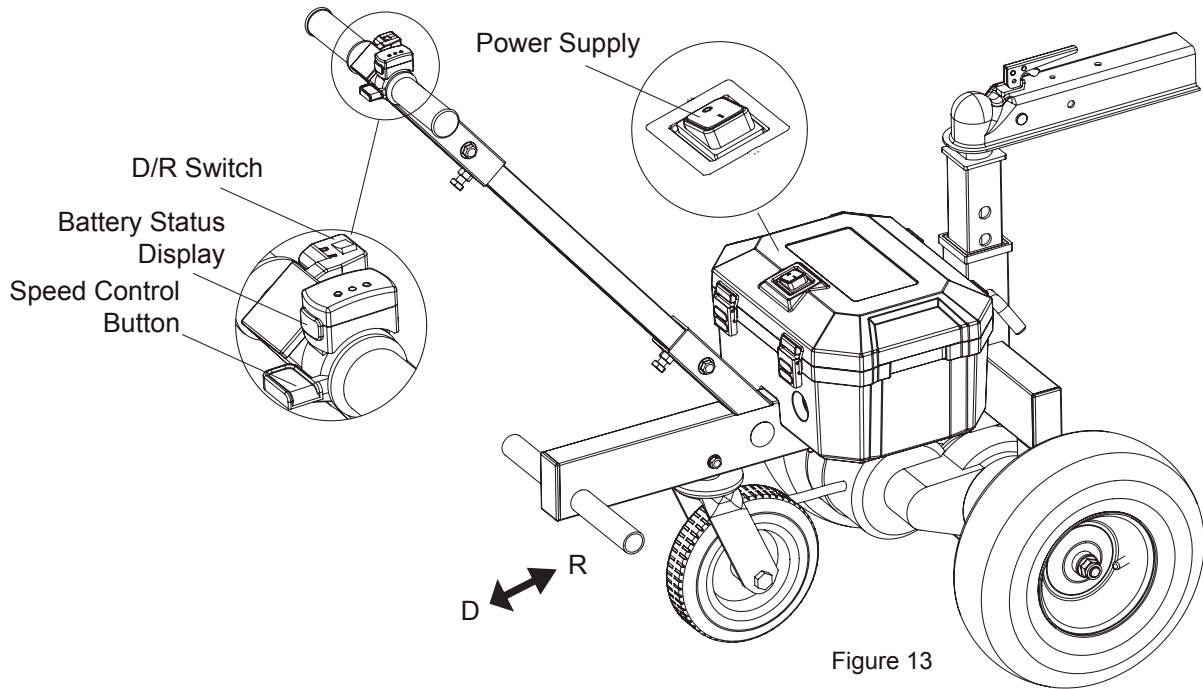

Figure 13
3. Switch on the power and speed controller button. Check the battery status. Switch the button into Drive or Reverse, and move the dolly by the speed controller knob. The speed can be various from 0-2.5km/h. **(See Figure 13)**